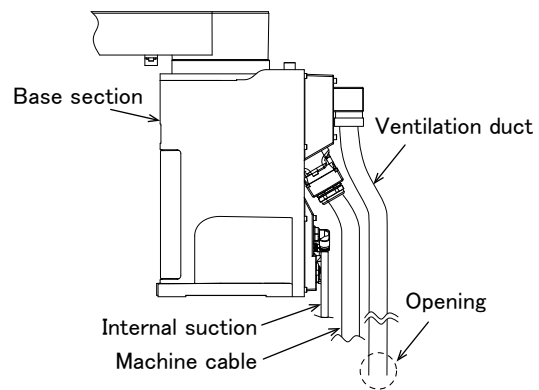

Fig.2-16 : Installation of Ventilation Duct
- 3) The ventilation duct is attached to the robot arm rear (refer to Fig. 2-16). As the Z axis moves up and down the volume of the bellows varies, and air is sucked in and released out of the robot's ventilation duct opening. Be sure to locate the ventilation duct's opening in a position that will not affect the robot's cleanliness.